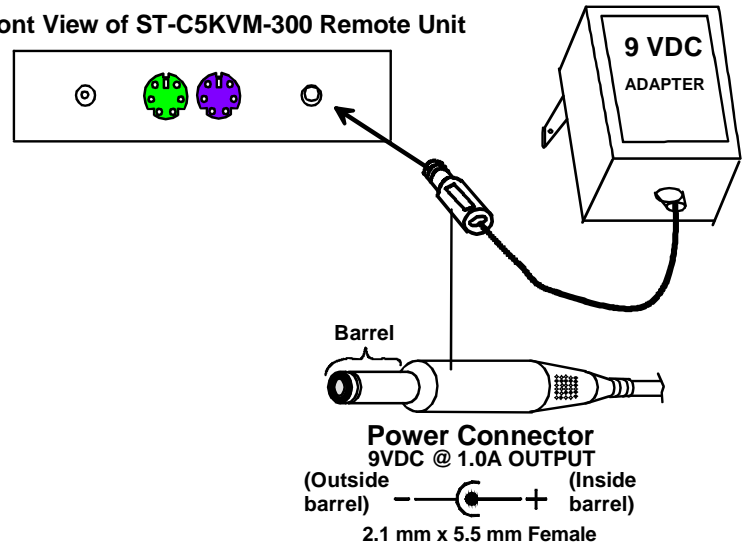

Figure 9- Connect the AC adapter to the Remote Unit
5. Connect the AC adapter power connectors to the 9VDC ports on the Remote and Local Units. Plug each AC adapter into a power outlet. The green LED on the RJ45 connector of the Remote and Local Units should illuminate, indicating that a proper power connection has been made. (See Fig. 9.)
Note: The yellow LED on each RJ45 connector will illuminate anytime data traffic is passing between the Local and Remote Units, indicating proper CAT5 cable connection and communication. (See Fig. 9)